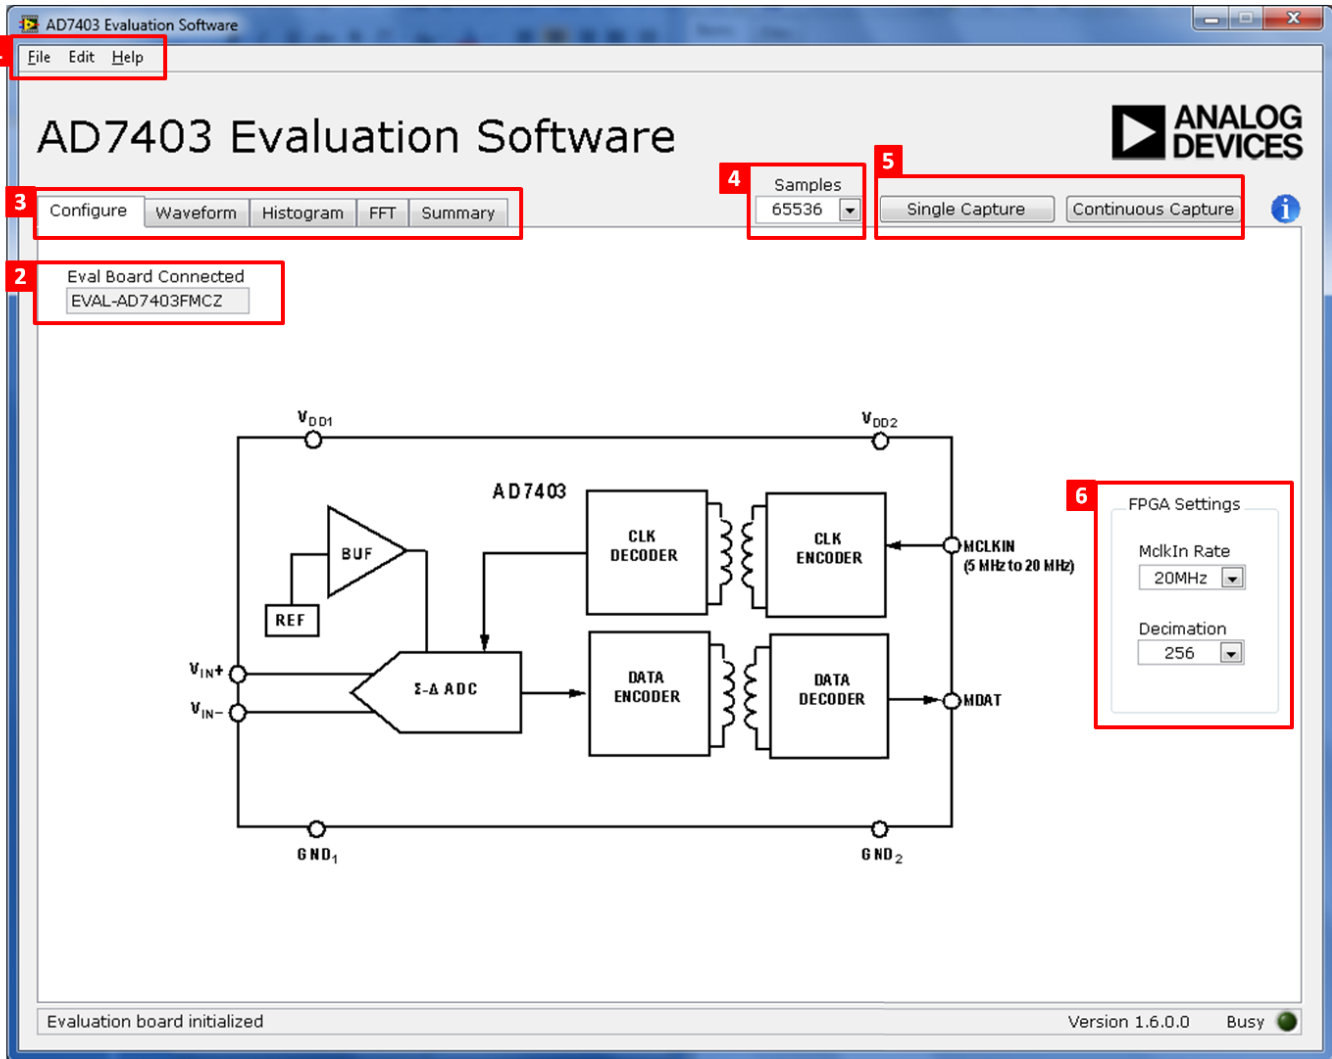

Figure 15. Evaluation Software Main Window
1. From the **Start** menu, select **Programs > Analog Devices > AD7403**. The main window of the software then opens (see Figure 15).
The main window of the software is shown in Figure 15 and has the features described in this section. These features include the following:
The menu bar (labeled 1 in Figure 15) consists of the **File**, **Edit**, and **Help** menus.
- The **Eval Board Connected** box (labeled 2 in Figure 15) indicates whether the **EVAL-AD7403FMCZ** board has been detected.
- The **FPGA Settings** section (labeled 6 in Figure 15) specifies the MCLK frequency used for the serial interface and the decimation ratio used by the FPGA to filter the data.
- The **Samples** drop-down box (labeled 4 in Figure 15) allows selecting the number of samples to be captured in a single acquisition.
- Clicking **Single Capture** (see label 5 in Figure 15) initiates the sampling and readback of the number of measurements defined in the **Samples** box.
- Clicking **Continuous Capture** (see label 5 in Figure 15) performs a continuous capture from the ADC. Clicking **Continuous Capture** a second time stops sampling.
There are five tabs available in the tabs area (labeled 3 in Figure 15) of the main window: **Configure**, **Waveform**, **Histogram**, **FFT**, and **Summary**. These tabs are used to switch among device configuration, waveform analysis, histogram analysis, FFT analysis, and a summary of the last capture.